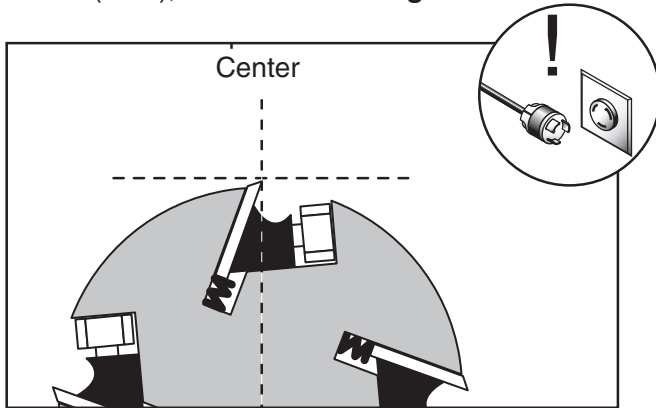

Figure 7. Cutterhead knife at top-dead-center.
2. Rotate the cutterhead pulley until one of the knives (or carbide inserts) is at top-dead-center (TDC), as illustrated in **Figure 7**.